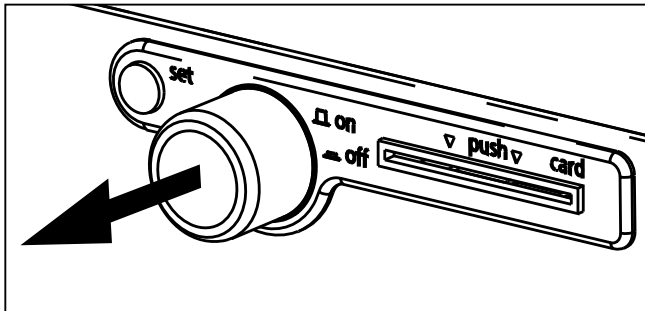

Fig. 19
- ▶ Switching on: press the main switch so that it comes out of the appliance (Fig. 19).
1. Switch on appliance by pressing the main switch (main switch comes out of appliance, see Fig. 19).
- Switch on appliance by pressing the push-turn control on the operating panel so that it comes out of the appliance (Fig. 19).